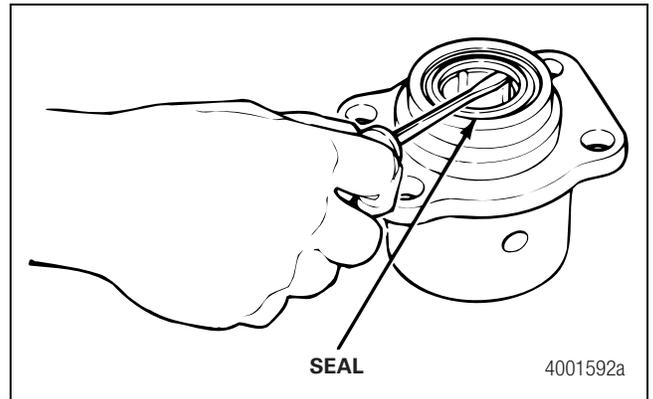

Figure 7.6
11. Use a tool with a flat blade to remove the seal from the bore in the camshaft cap. You must not damage the bushing inside the cap. Discard the seal and use a new seal when you assemble the caliper. Figure 7.6.